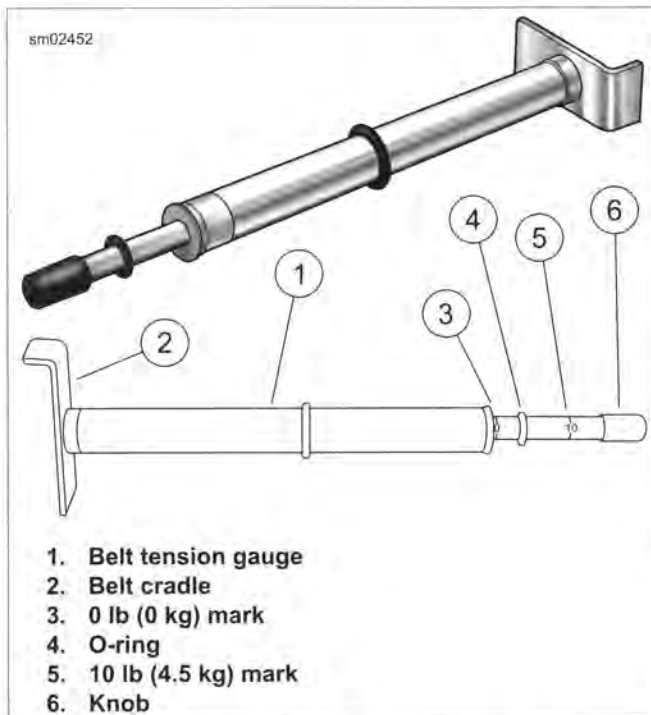
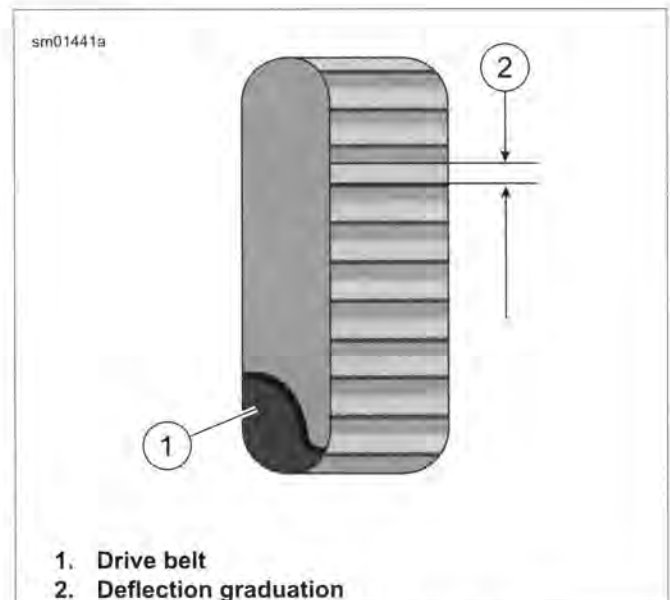

Figure 1-24. Belt Tension Gauge
Figure 1-26. Belt Deflection Window
2. See Figure 1-24. Measure belt deflection using H-D BELT TENSION GAUGE (Part No. HD-35381-A):
- a. Slide O-ring (4) to 0 lb (0 kg) mark (3).
- b. **Models equipped with belt deflection window:** Fit belt cradle (2) against bottom of drive belt in line with belt deflection window.
- c. **All other models:** Fit belt cradle (2) against bottom of drive belt halfway between drive pulleys.
- d. Press upward on knob (6) until O-ring slides down to 10 lb (4.5 kg) mark (5) and hold steady.
- a. **Models equipped with belt deflection window:** See Figure 1-26. Measure belt deflection as viewed through belt deflection viewing window while holding gauge steady. Each deflection graduation is approximately 1/16 in (1.59 mm).